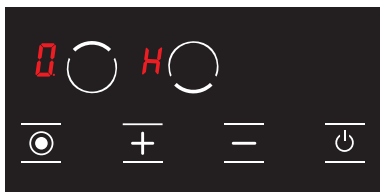

Figure 13
3. If any hob is still hot after 20 seconds, **H** symbol is displayed until the temperature of the relevant hob becomes lower than +60 °C. (see Fig. 13) No icon is displayed after the stove is turned off if the relevant hob is not hot.